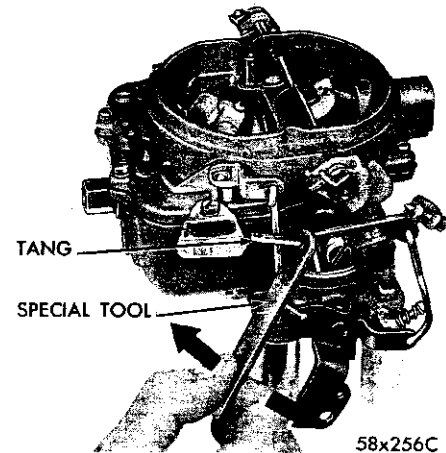

Fig. 34—Bending the Fast Idle Lever Tang
(2) With a finger lightly pressing against the valve, a slight drag should be felt as gauge is being withdrawn. If an adjustment is necessary, bend the tang on the fast idle lever, using Tool T109-22, as shown in Figure 34, until correct clearance has been obtained.